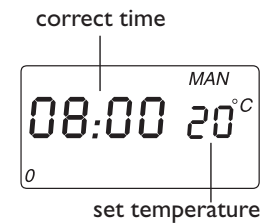

fig. 3
Once the power has been selected, press the "⌚ +" (5) or "⌚ -" (6) button to select the desired comfort temperature from 5°C to 35°C (shown on the right side of the display, fig. 3). This will increase or decrease by 1°C. Keep either button pressed down to move through the temperature in fast move.